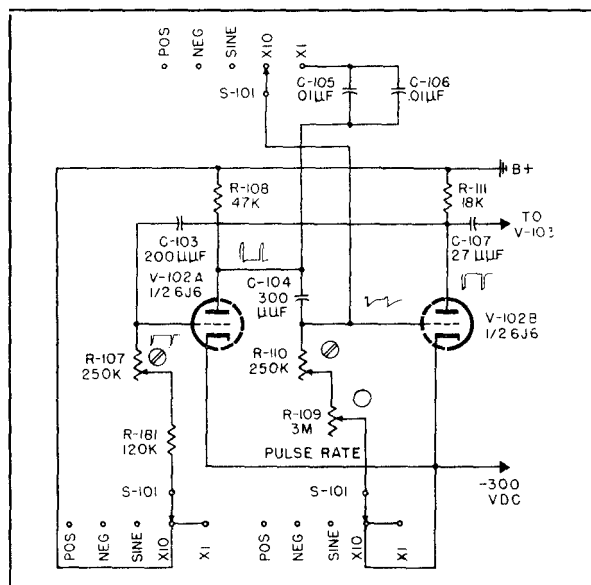

Figure 3-8. Free Running Pulse Rate Multivibrator
(1) **FREE-RUNNING.**—When switch S-101 is in the x1 or x10 position, the circuit operates as a free-running multivibrator with unbalanced waveform. The multivibrator circuit is shown in figure 3-8 with S-101 drawn in simplified form and unused parts of the circuit removed. Basically, the duration of the pulse generated by the multivibrator at the plate of V-102B is determined by the time constant in the grid of V-102A, while the repetition rate of the multivibrator is determined by the setting of R-109 in the grid circuit of V-102B and by the capacitors C-104 to C-106, also in the grid circuit of V-102B. The multivibrator covers the range from 40 to 4000 pps in two ranges. The higher range from 400 to 4000 pps is obtained by switching C-105 and C-106 out of the circuit. R-109 is the PULSE RATE control and is calibrated directly in pps for the lower range (40 to 400).